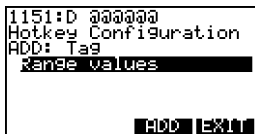

FIGURE 1-35. Hotkey Configuration Menu.
3. The Hotkey Configuration menu displays (**Figure 1-35**).